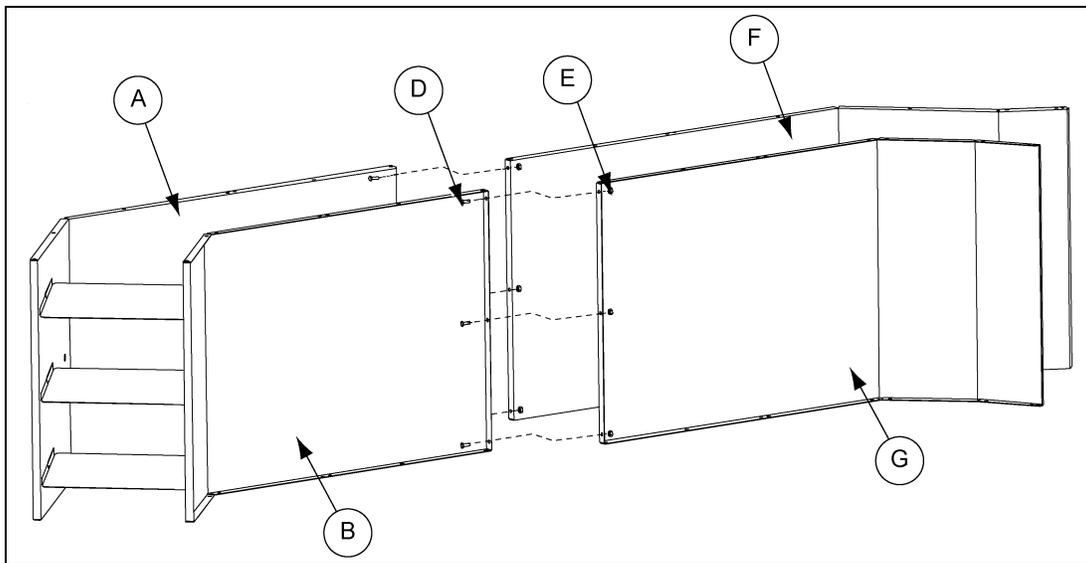

Figure 6B
2. Attach the duct inlet large side (F) to the duct exit large side (A) and attach duct inlet small side (G) to the duct exit small side (B). Use three (3) 5/16" x 3/4" flange bolts (D) and flange nuts (E) per each duct side. (See Figure 6B.)